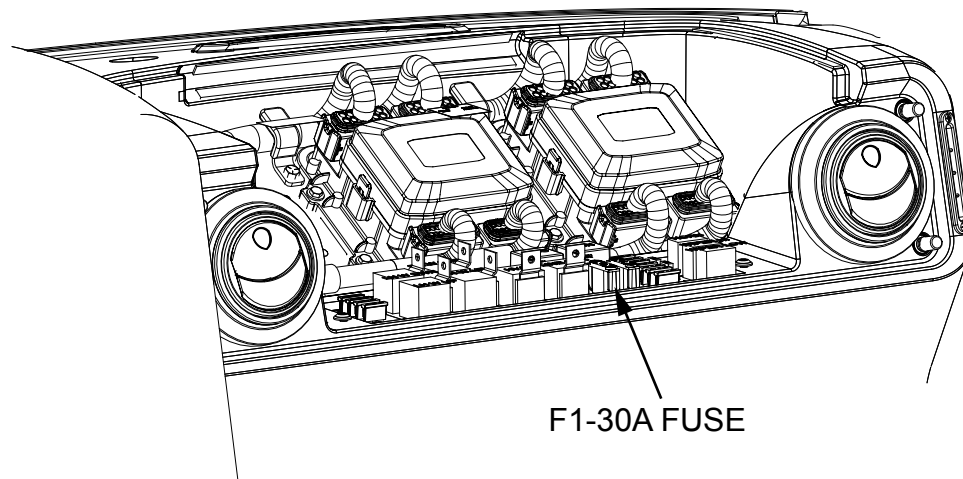

Figure 3
5. Remove and discard the F1-30A fuse from the fusebox 3 (FB3) (see *Figure 3*).